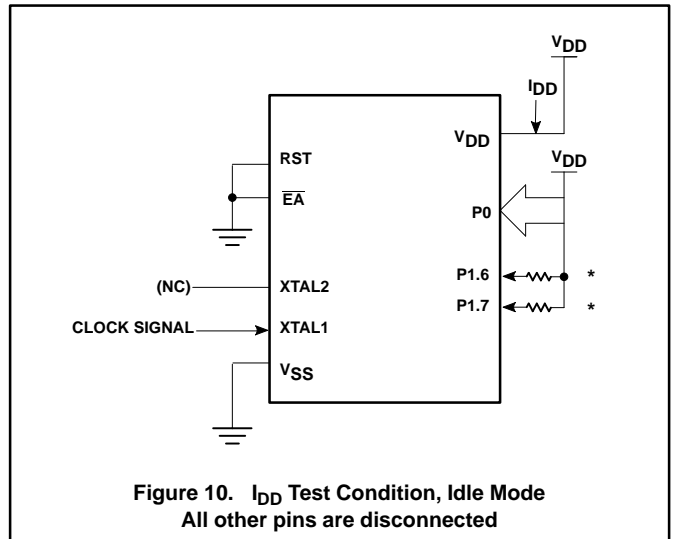

Figure 10. I_{DD} Test Condition, Idle Mode
- The idle mode supply current is measured with all output pins disconnected; XTAL1 driven with $t_r = t_f = 5ns$; $V_{IL} = V_{SS} + 0.5V$; $V_{IH} = V_{DD} - 0.5V$; XTAL2 not connected; Port 0 = P1.6 = P1.7 = V_{DD} ; $\overline{EA} = RST = V_{SS}$. See Figure 10.